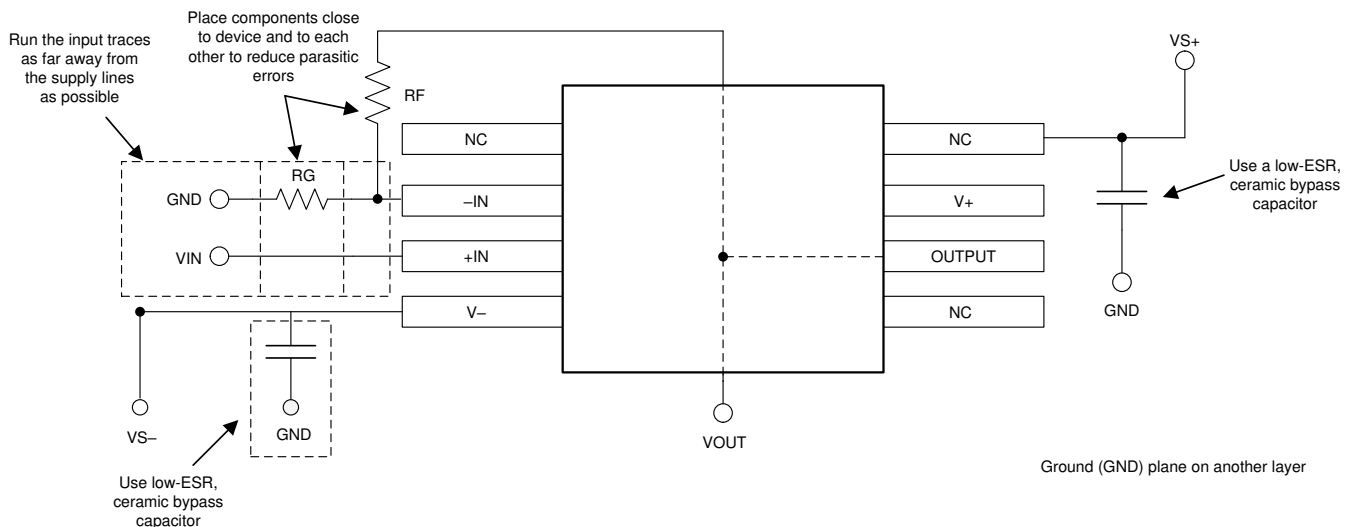

图 11-1. Operational Amplifier Board Layout for a Noninverting Configuration
- Place the external components as close to the device as possible. Figure 11-1 illustrates how keeping R_F and R_G close to the inverting input minimizes parasitic capacitance.